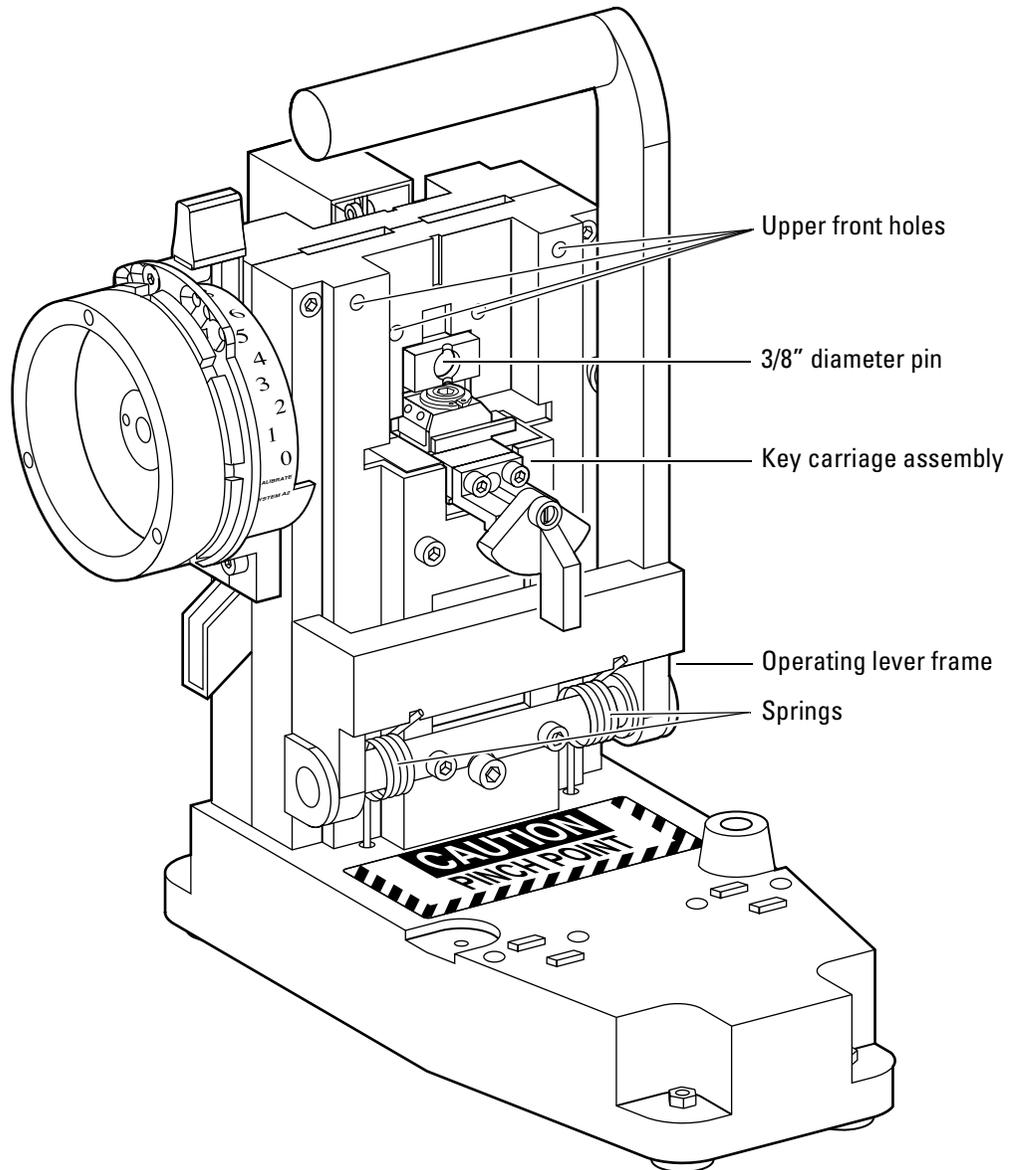

Figure 3.23 Lubricating parts
1. Apply one drop of oil into each of the upper front holes and rear holes. See Figure 3.23.
2. Apply one drop of oil on both sides of the key carriage's sliding surfaces. See Figure 3.23.
1. Apply one drop of oil onto each side of the operating lever frame. See Figure 3.23.